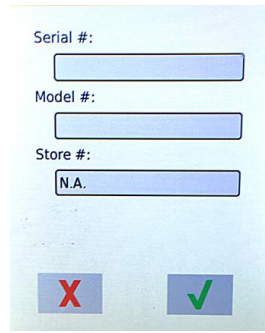

Figure 38
- 45. It may be necessary to enter the serial # and model # from the rating plate (see Figure 38).